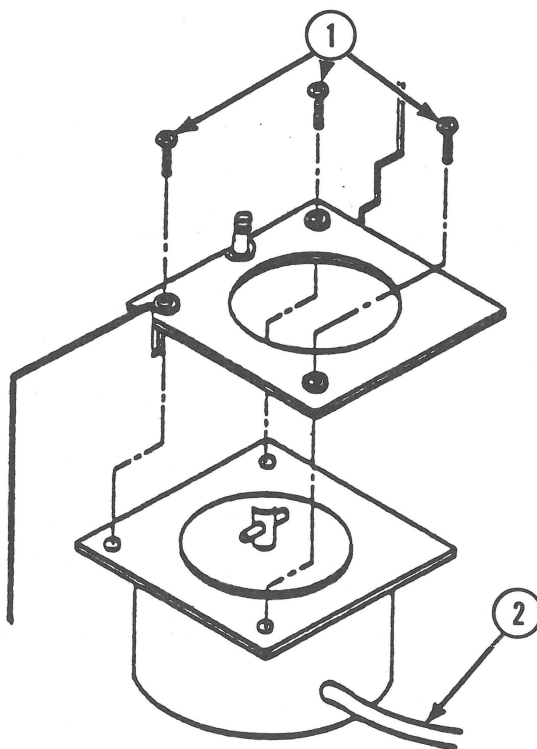

FIGURE 36
7. Remove the three motor mounting screws (Figure 36, #1).
Note: When you remove the last screw, the motor will drop out of the mechanical assembly. As you remove the last screw, hold onto the motor. Carefully note the position of the motor cable (Figure 36, #2). Then let the motor fall free.
2. Replace the three motor mounting screws (Figure 36, #1). Do not over-tighten them.